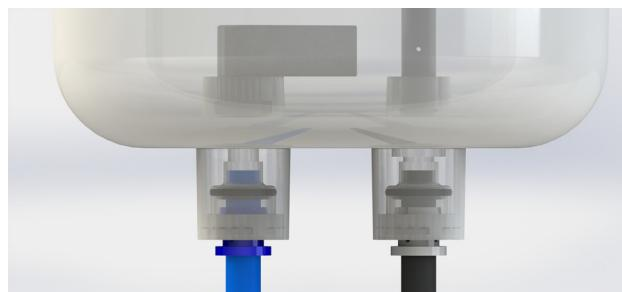
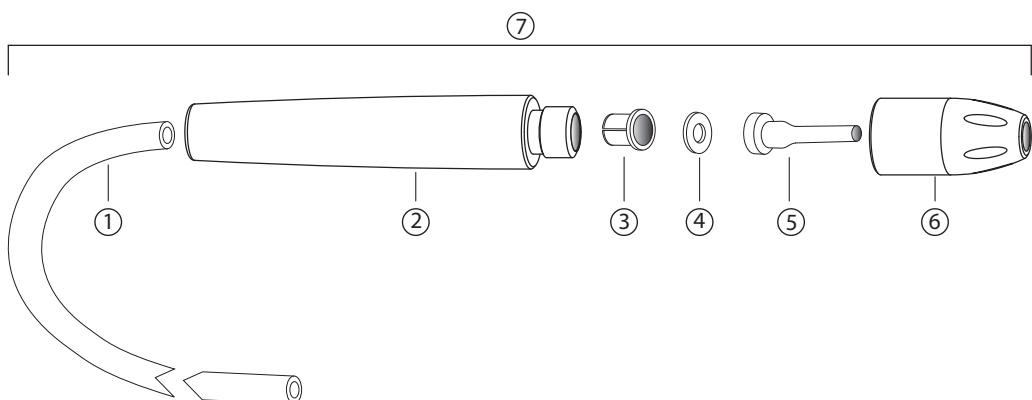

Figure 1
Figure 2
2. Remove the handpiece assembly ⑦ (Fig. 2) from inside the cabinet by pulling the tubing through the rubber grommet.
3. Unscrew the nozzle cap ⑥ to remove the tip ⑤ and O-ring ④. Using pliers, grasp the handpiece insert ③ and pull the tubing through the handle ② with a twisting motion. Avoid damaging the insert. Twist and pull to separate the insert from the tubing.
4. Using the new tubing, feed it through the handle with a twisting motion. Once the tubing extends several inches past the front of the handle, press the handpiece insert ③ fully into the end of the tubing until the tubing is flush with the front of the insert. Moistening the tubing may help with installation.
5. Pull the tubing back into the handle until the insert collar sits firmly against the end of the handle. Pull the tubing through the rubber grommet, blow out tank bottom fitting and re-attach it to the sand tank assembly by pushing it into the quick-release fitting. Visually make sure the tube travels past the black seal looking through the transparent raised area (Fig. 1). Re-assemble the O-ring, tip and nozzle cap to the handle.